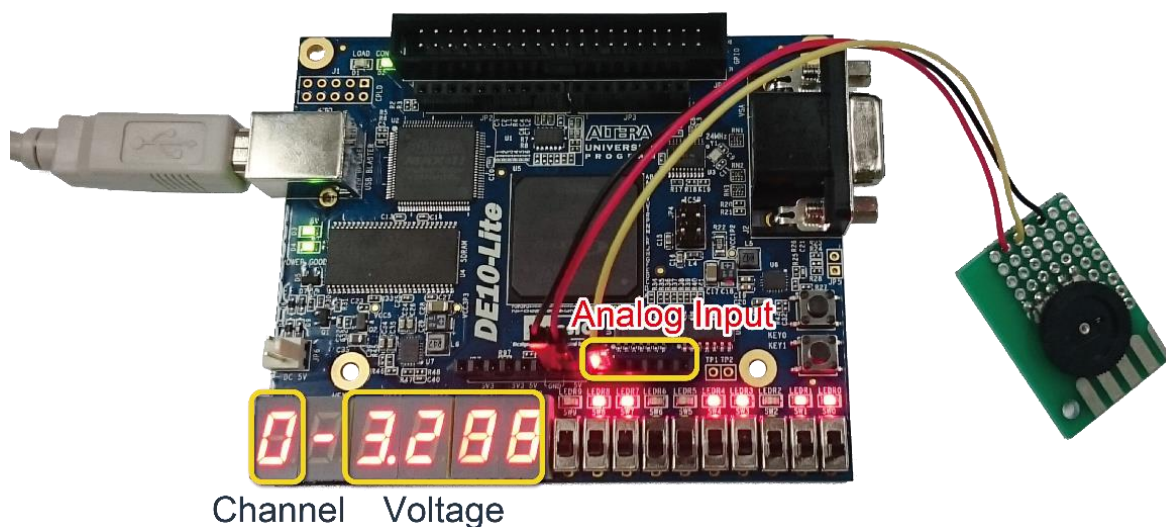

Figure 5-11 7-Segment display the measured channel and voltage
- The measured channel and voltage will be displayed on the 7-segment display as shown in **Figure 5-11**.